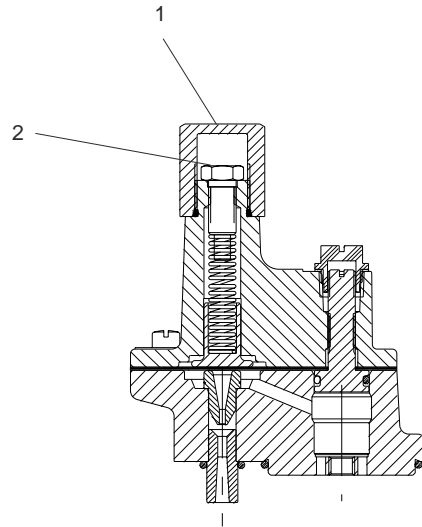

FIGURE 2
1. Remove the brass cap (Item 1, Figure 2) by unthreading it.
2. Turn down the adjustment screw (Item 2, Figure 2). Tightening the screw clockwise will increase the pressure. When the adjusting screw is fully down, the relief pressure is approximately 30 psi. Positions in between fully up and fully down will result in relief pressures between 3 & 30 psi.